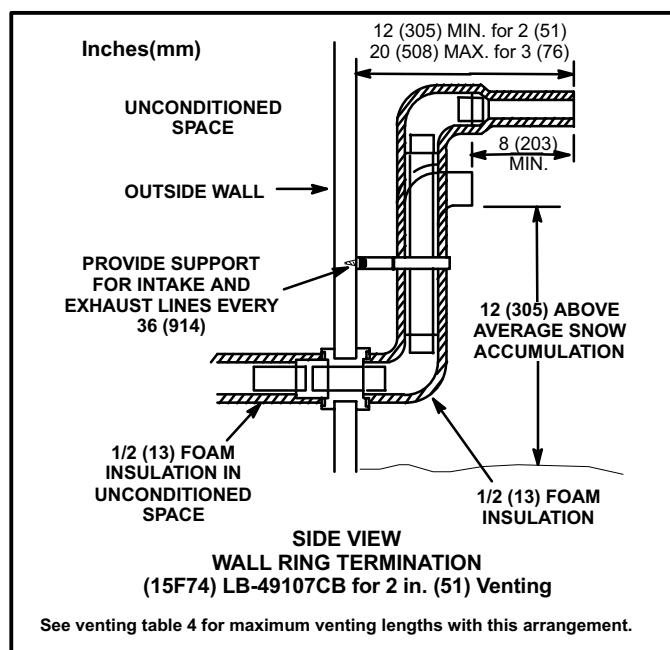
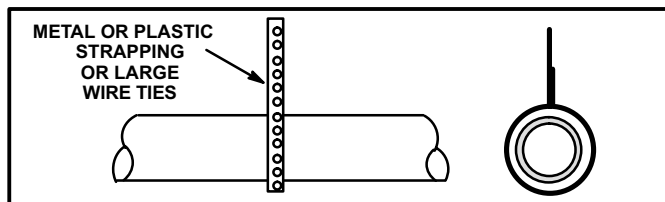
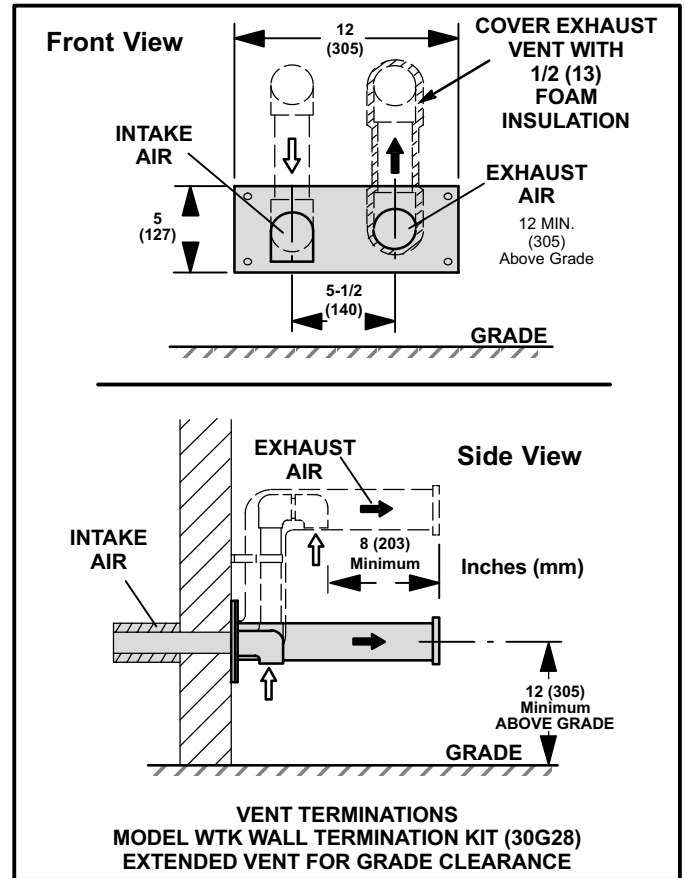

FIGURE 12
FIGURE 14
FIGURE 17
- 8 - If intake and exhaust piping must be run up a side wall to position above snow accumulation or other obstructions, the piping must be supported every 3 feet (.91 m) as shown in figure 14. Refer to figures 12 and 13 for proper piping method. WTK wall termination kit must be extended for use in this application. See figure 17 or use kit WTKX shown in figure 18. When exhaust and intake piping must be run up an outside wall, the exhaust piping is reduced to 1 1/2 inches (38 mm) after the final elbow. The intake piping may be equipped with a 90° elbow turndown. Using turn-down will add 5 feet (1.5 m) to the equivalent length of the pipe.